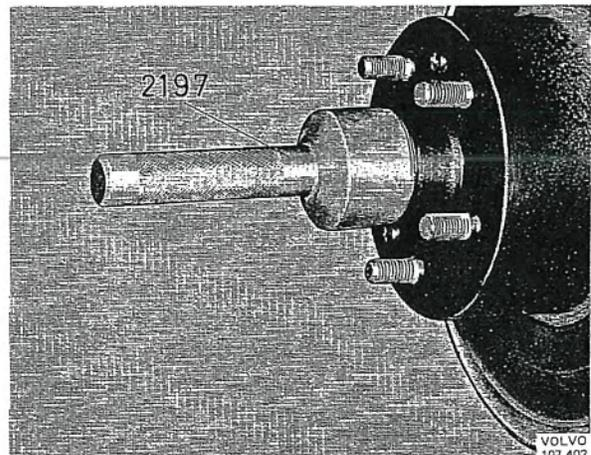
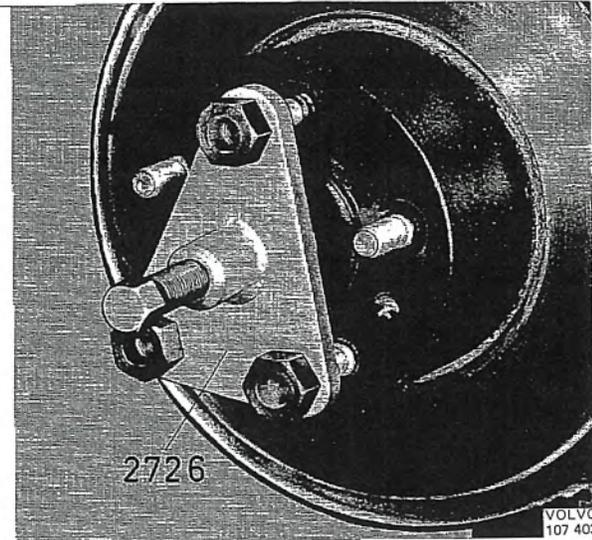

Fig. 7-16. Removing grease cap
Fig. 7-17. Removing hub
3. Remove the grease cap with tool 2197, see Fig. 7-16. Remove the split pin and castle nut. Pull off the hub with puller 2726 (see Fig. 7-17). Pull off the inner bearing for the stub axle with puller 1794 (Fig. 7-18) if the bearing is still fitted.